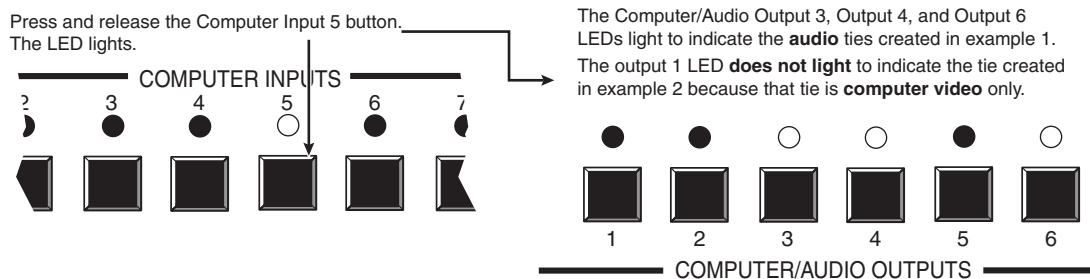

Figure 3-17 — Select an input
3. Press and release the input 5 button (figure 3-17).